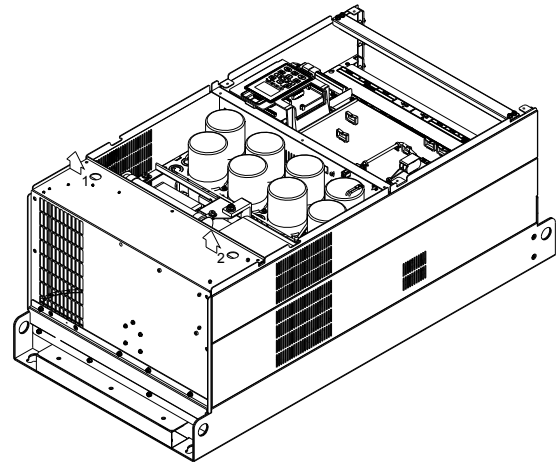

Figure 4
- (4) Lift the fan by putting your finger through the protective holes, as indicates in 1 and 2 on the figure 4.